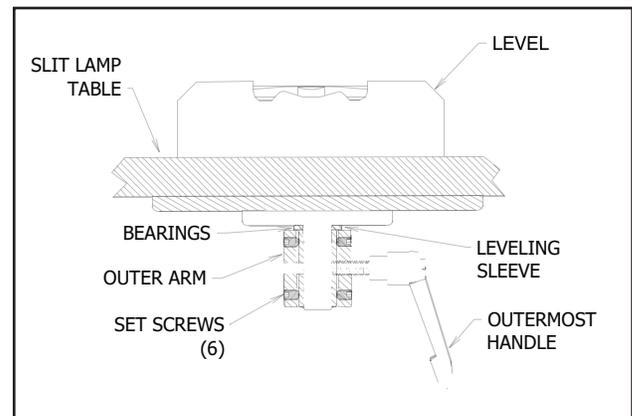

FIGURE 4
2.8.1. When attaching an instrument to the Slit Lamp Arm, note the Thrust Bearing which should be in place between the instrument and the arm. See Figure 4.
3.1.5. The outer end of the Slit Lamp Arm contains a Leveling Sleeve and six set screws for field re-leveling of the Instrument, if necessary. A hex key wrench (1/8) and a small, accurate level will be required. Remove the Instrument from the table and refer to Figure 4. The outermost Handle must be threaded into the Leveling Sleeve, but not tightened. Rotate the Slit Lamp Arm to the examining position and tighten the other (2) handles. It may be necessary to loosen several set screws to reposition screws securely and check level again.